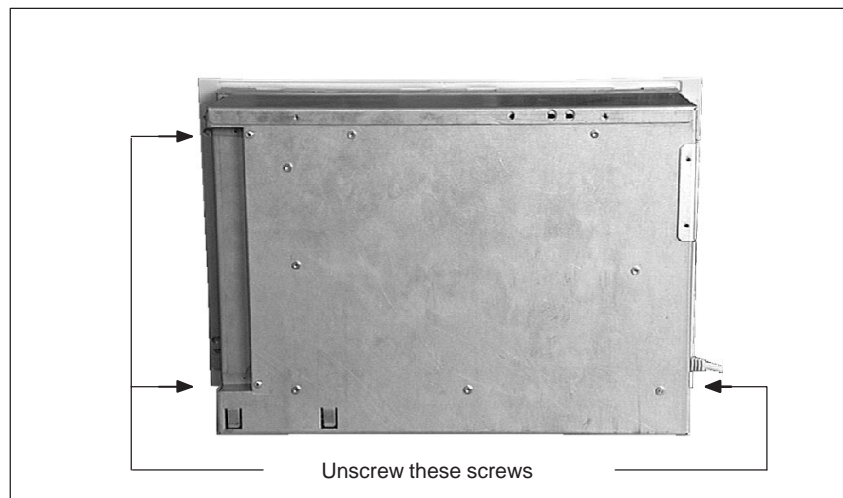

Figure 1-3 Opening the system unit
- Release the three screws (see figure 1-3).